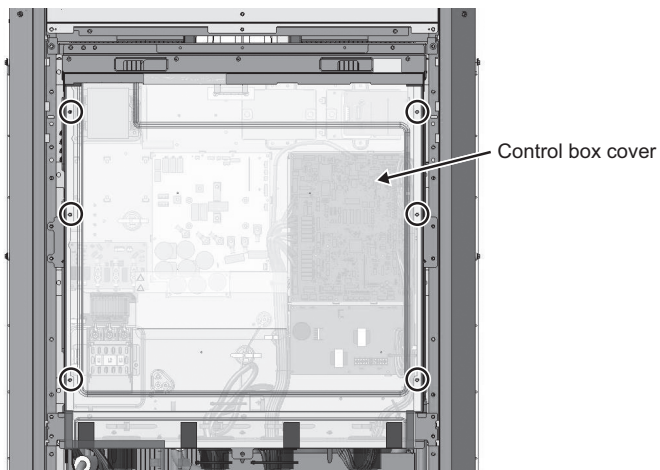

Fig. 2
(2) Remove the control box cover on the OS side. (Six screws: Fig. 2)